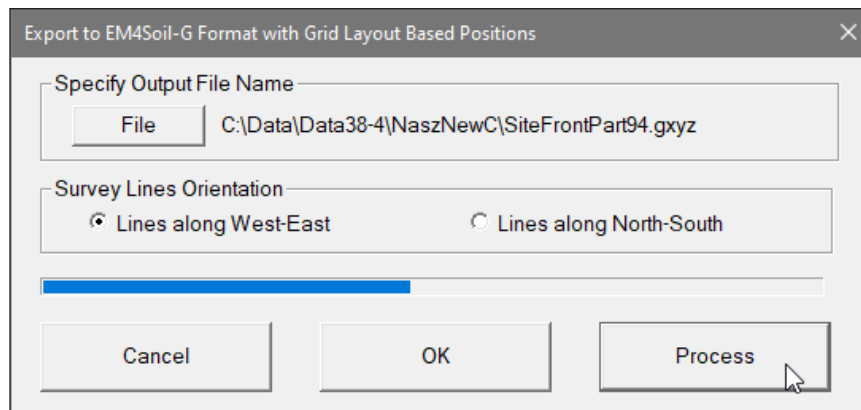

Figure 7.15 Export to EM4Soil-G Format with Grid Layout... dialog during creating xyz file
- Specify or select a file name and click **Save**. A warning appears if the file already exists. The chosen file name is displayed at the bottom of the dialog, activating the **Process** button (Figure 7.15).
- Click **Create XYZ File**. A progress bar indicates the export progress (Figure 7.15).